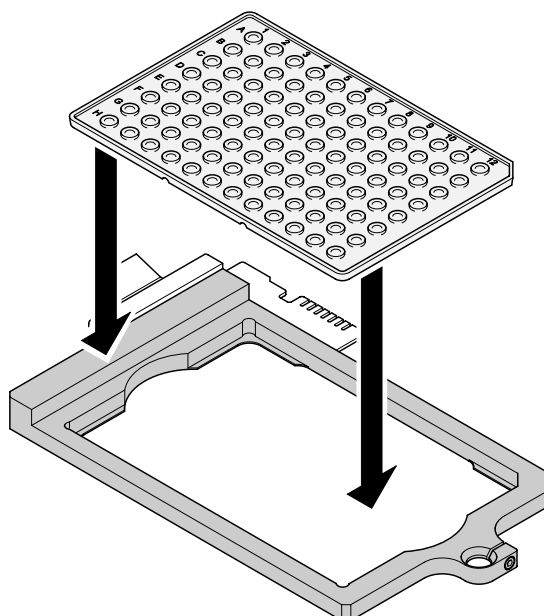

Figure 23 Inserting CapturePlate 96 into the frame
- Place an insert in the appropriate frame (refer to Figure 23; the figure shows PALM CapturePlate Collector 96).